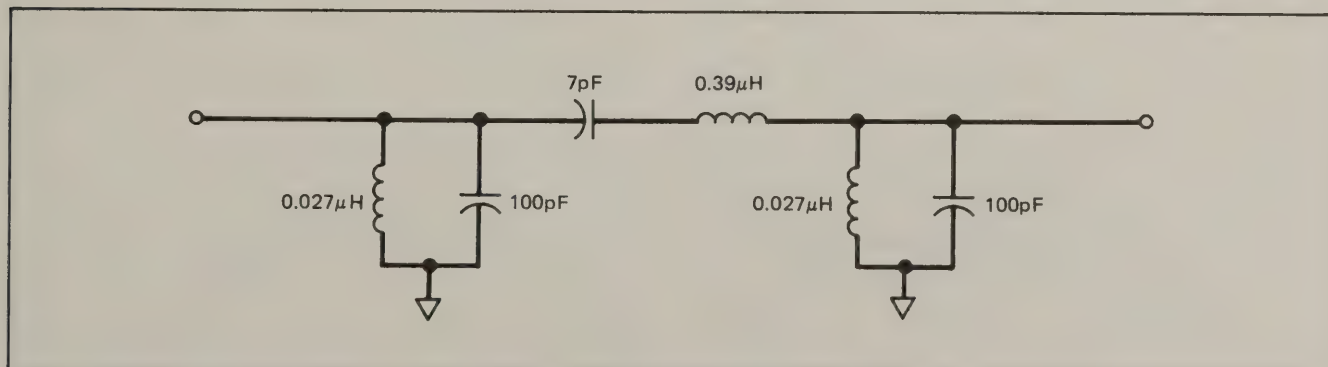

Figure 2-6 Typical Front End Preselection Filter
**2-19. Front End Preselection.** The noise and spurious response can be improved by using front end preselection. For example, if measurements are confined to an RF input bandwidth of 88 to 108 MHz, a filter as shown in Figure 2-6 will remove undesired RF signals outside this band. The filter may be installed externally, or behind the front panel of the Model 82AD.